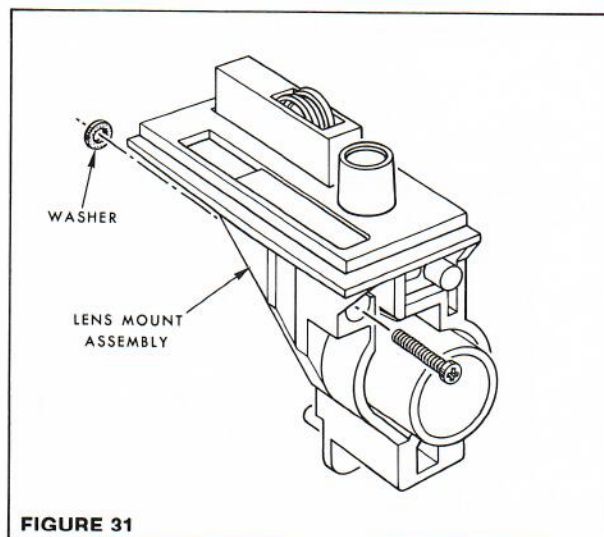

FIGURE 31
2. Add or remove a .010-inch WASHER, as necessary, Figure 31, Page 15.